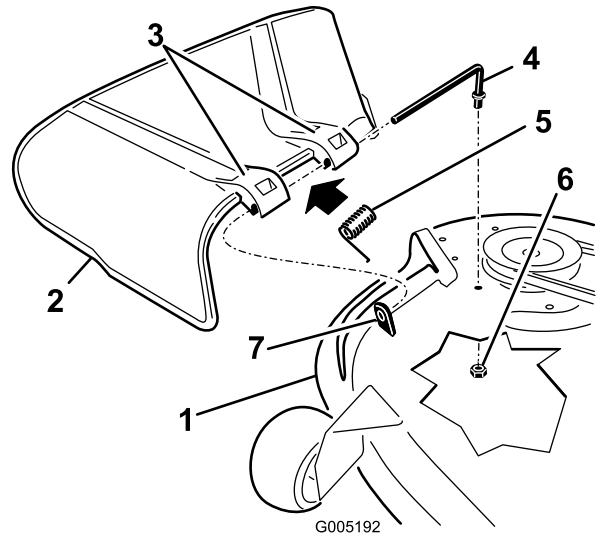

Figure 77
1. Remove the nut (3/8 inch) from the rod under the mower (Figure 77).
2. Slide the rod out of the short standoff, the spring, and the grass deflector (Figure 77).
4. Replace the grass deflector (Figure 77).
7. Slide rod through the second grass-deflector bracket (Figure 77).
9. Secure the rear end of the rod into the mower with a nut (3/8 inch) as shown in Figure 77.